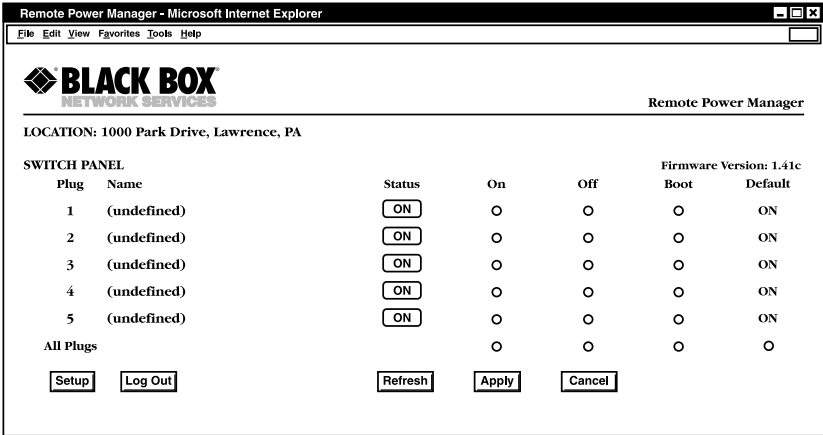

Figure 2-1. Plug Status screen—Web-browser interface for PS565A and PS565AE.
- a) From the Web-browser interface, start your JavaScript enabled Web browser. Enter the Remote Power Manager's default IP address (`http://192.168.168.168`) in your browser's address bar, then press **[Enter]**. A password prompt will be displayed. Since at this point the user name and password have not yet been defined, simply click on **OK** without typing in a user name or password. The Remote Power Manager's Plug Status screen appears as shown in Figures 2-1 or 2-2.